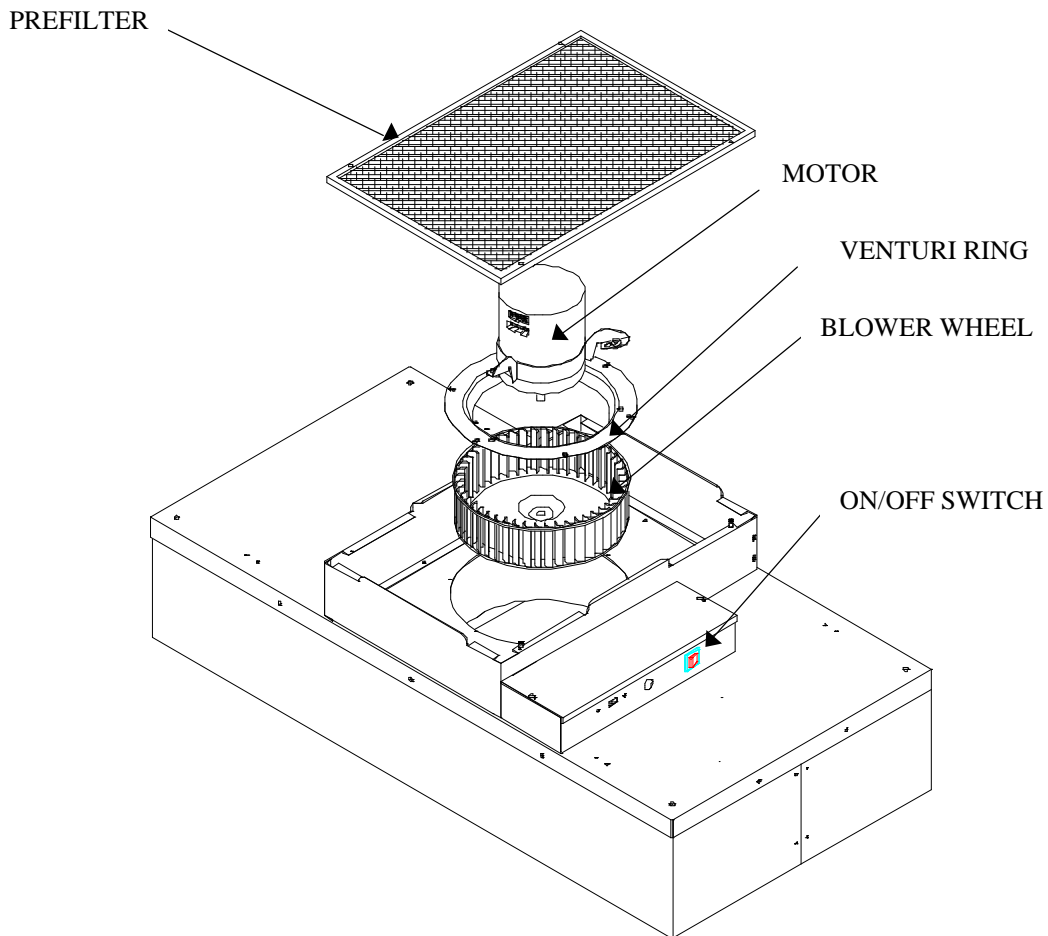

Figure 6
- Step 4.** Remove the six screws to free the venturi ring and remove the motor/blower assembly from the lid assembly.(see Figure 6)